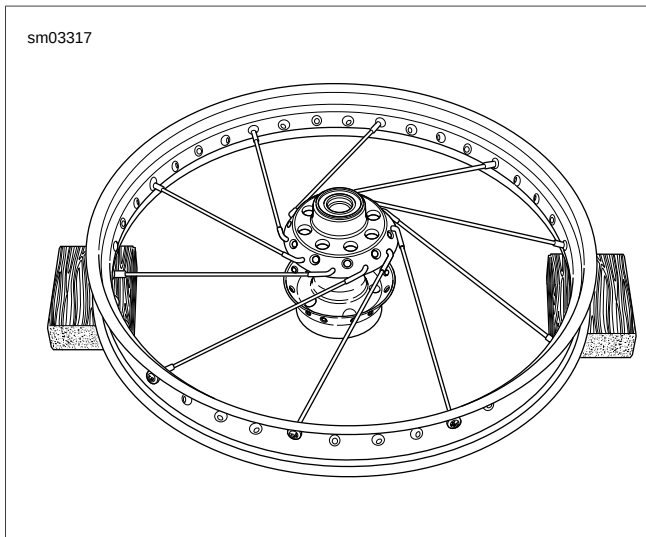

Figure 2-46. Lower Row Spokes Spaced to Every 4th Hole
4. See Figure 2-46. Install the rest of lower row spokes in every fourth hole.